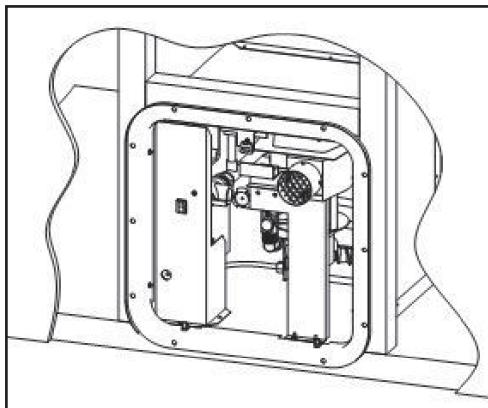

Figure 4
6. Secure water heater housing unit to the vehicle using No.8 – ¾" flat head screws through each hole in the door flange (Figure 4). Verify that a tight seal exists between the side wall and the flange. If not, repeat above steps.